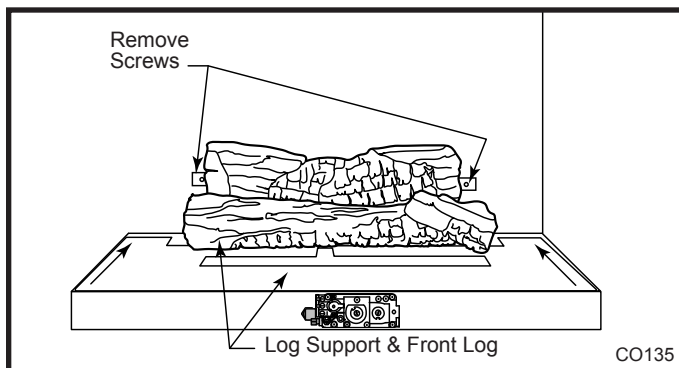

Fig. 68 Remove rear log and log support and front log.
4. Push the log support towards the back of the fireplace and lift out the front log mounting assembly. (Fig. 68)